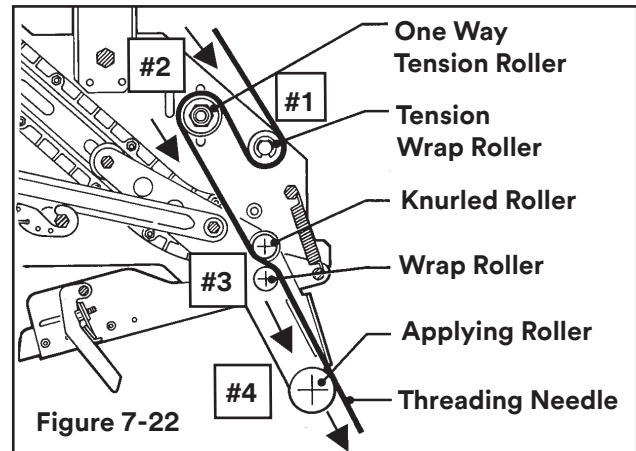

Figure 7-22
2. Use Figure 7-22 and tape threading label. Position the tape supply roll so the adhesive side of tape is facing the front of the taping head as it is pulled from the supply roll.
4. Continue pulling the threading needle down and guide between the two (2) rollers on the apply arm (Position 3).